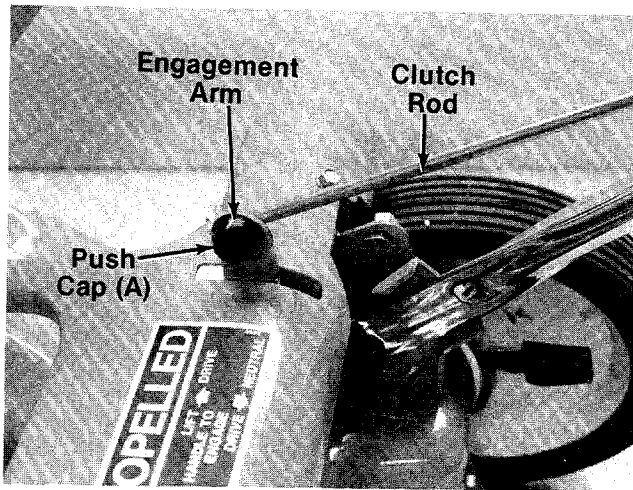
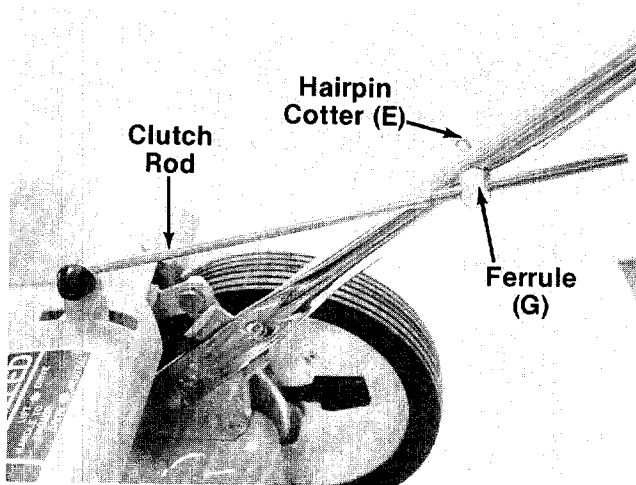

FIGURE 9.
FIGURE 10.
15. Place push cap (A) in position on hooked end of clutch rod (H). Secure the push cap using a hammer or mallet.
16. Insert the threaded end of the clutch rod through the hole in the engagement arm, and place in position as shown in figure 9.
17. Thread the ferrule (G) onto the threaded end of the clutch rod a few turns.
18. Raise the mower handle slightly and thread the ferrule onto the clutch rod until the ferrule lines up with the hole in the lower handle. Secure ferrule in handle with hairpin cotter (E) as shown in figure 10.
1. Remove the cotter pin. See figure 10.